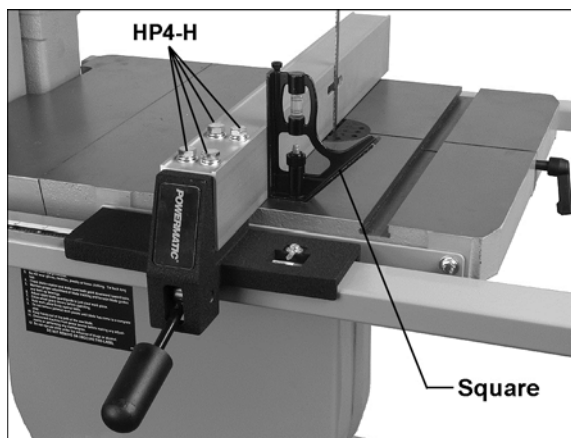

Figure 31
Refer to Figure 31.
3. Place a square on the table and against the fence, as shown in Figure 31.
1. With the fence now aligned with the blade, and still contacting the blade as shown in Figure 31, check to see that the *pointer* is aligned with zero on the guide rail scale.